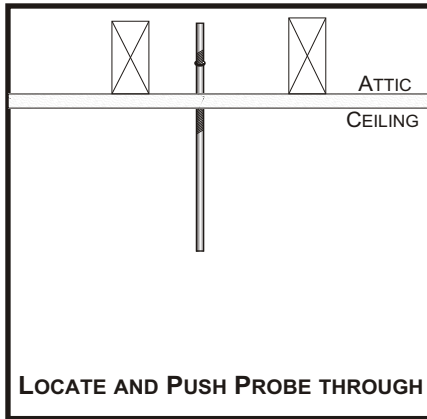

Figure 1
3. Check the length of pipe needed by measuring from the ceiling to the roof plus 1 foot. The best way to do this is to take a probe, (coat hanger or wire) push it up through the ceiling at the location where the **TUBULAR SKYLIGHT™** is to be placed (**Fig. 1**). Now go in the attic and locate the probe, measure this area. Also you need to check that the area is clear of any ducts or pipes. Clear away the insulation from around the probe. Take note where the ceiling joists are in relationship to the probe. Return to the living area of the home.